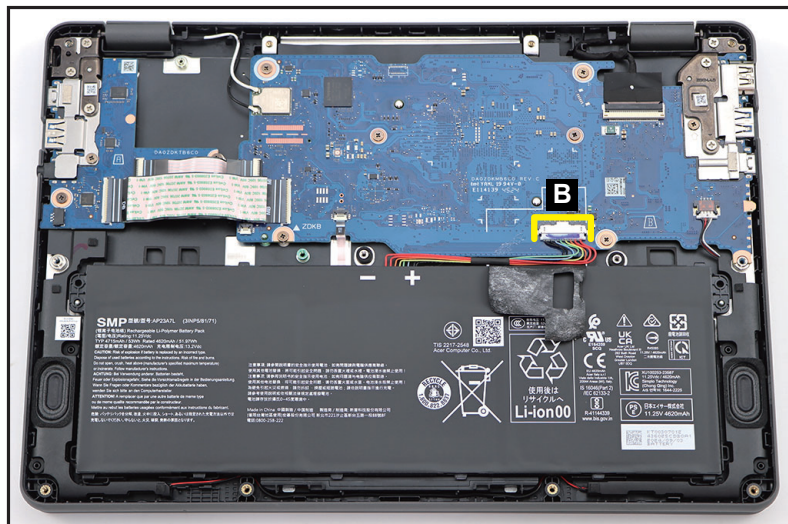

Figure 3-7. Battery Pack Removal
2. Disconnect the battery cable from the mainboard connector (B) (Figure 3-7).